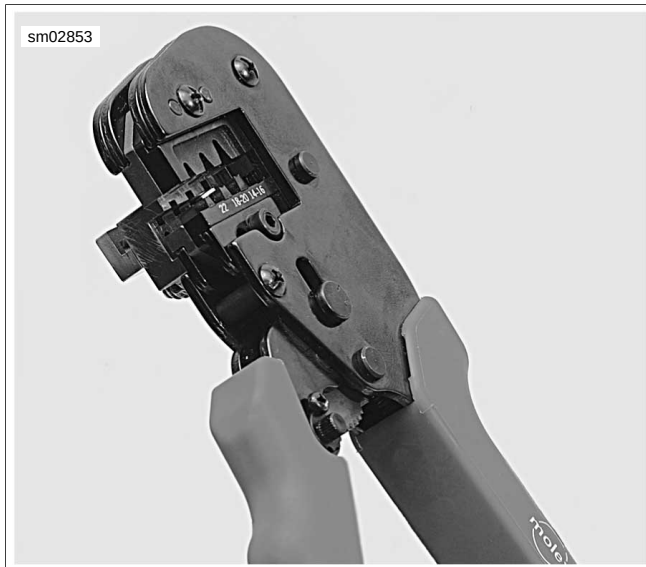

Figure A-48. Open Terminal Crimper (HD-48119) at 45 Degrees
3. See Figure A-48. Hold fully open tool at approximately 45 degrees.